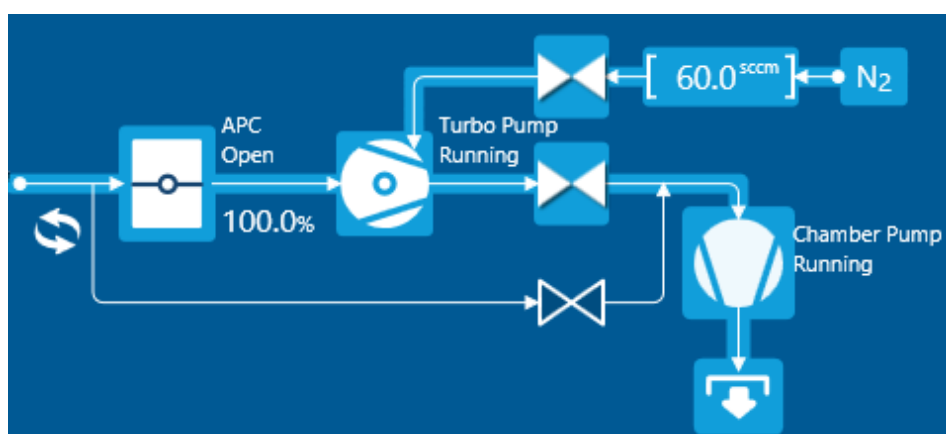

Figure 4-3 Chamber pump running
- 19 Check that the chamber pump and turbo pump start, the foreline valve opens and the APC opens. This is shown by the chamber pump, APC and pumping line changing colour to light blue, see Figure 4-3.